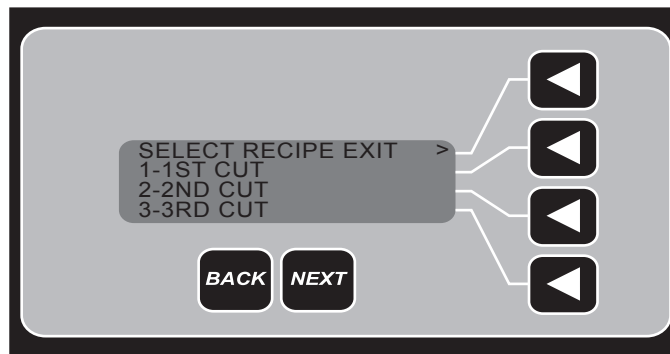

Fig. 8
2. Choose a recipe by pressing the arrow leading to selection (Fig 8).